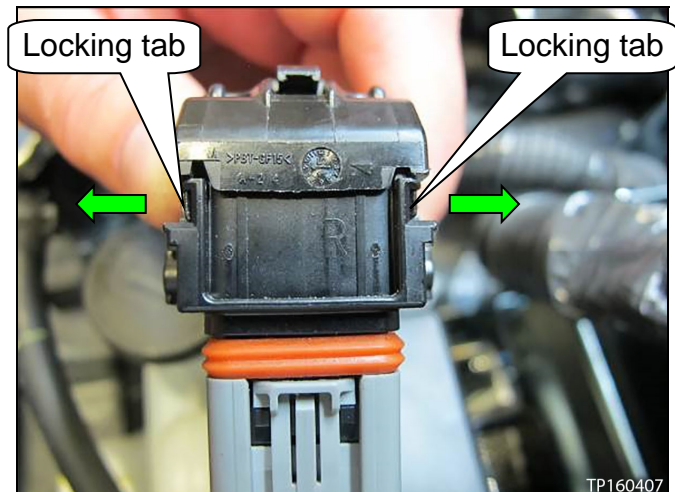

Figure 5
- a. Using a suitable tool, unlock the two locking tabs by carefully prying outward (see Figure 5).